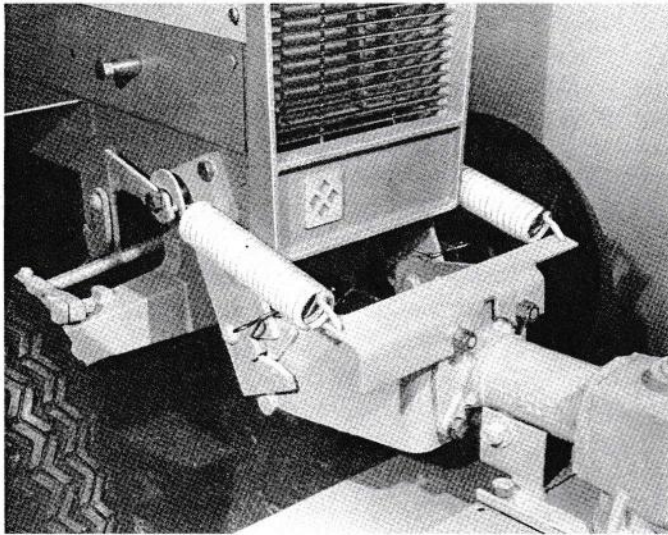

FIGURE 22
5. Place Spring Bracket in place on studs if Lift Assist Kit is to be used. Secure attachment in place with 2 bolts and 2 nuts. (Figure 22).